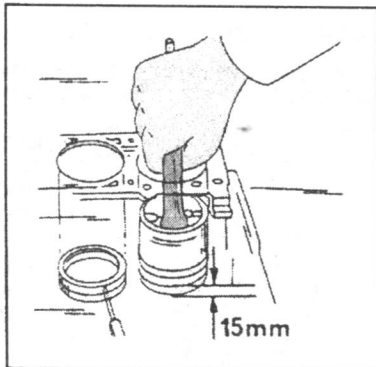

Fig. 1.65. Checking the piston ring gaps.
- One after the other insert each piston ring into the top or bottom of the cylinder bore (from where it was removed) and push the ring squarely into the bore, using an up-side-down piston to do so, as shown in Fig. 1.65, until the ring is inserted by approx. 15 to 20 mm (0.5 - 0.8 in.). Insert a feeler gauge into the gap between the two ring ends and check that the value obtained is not greater than specified in Section 1.4.0.0. Ring gaps cannot be adjusted and new rings must be fitted if the gap of any of the rings is greater.